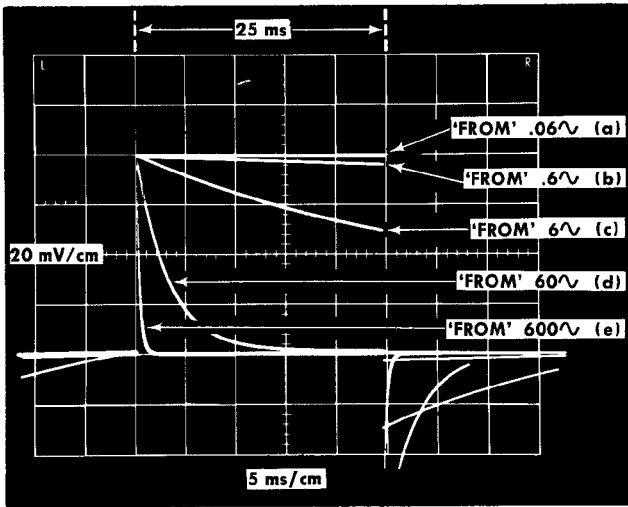

Fig. 6-29. Multiple exposure photograph showing decay characteristics for FREQ RESPONSE 'FROM' switch positions .06 \sim through 600 \sim .
- h. Adjust the Type 106 Square-Wave Generator + Transition Amplitude for approximately 4 cm of vertical display. See Fig. 6-29, waveform a.
i. Adjust the Type 106 Square-Wave Generator Repetition Rate Multiplier for 5 cm of horizontal display. See Fig. 6-29, waveform a.
k. Observe the displayed waveform. Check for similarity to the waveform b in Fig. 6-29.
l. Switch through the FREQ RESPONSE FROM switch positions, 6 \sim through 600 \sim and check the displayed waveforms against c, d and e, Fig. 6-29 for low frequency response characteristics.